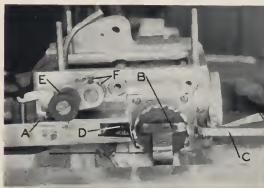

Fig. 14—Pressure bars and side cutter.
CENTER PRESSURE BAR: The center pressure bar (B) Fig. 14 should project beyond the cutter teeth by two points. To determine the correct setting, open the point ring and place a trimmed slug in position at cutter. Close up slowly on point ring, noting the position when ribs first touch center pressure bar. Note reading of point ring. It should be two points greater than the trimmed size of the slug being used for test. If this pressure bar has been bent out of shape install a new part, as this steel is too hard to be straightened.